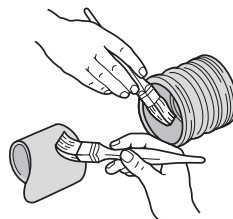

Fig.2b Preparing pipe
**Step 2** – Coat mating surfaces with **9100 Liquid Weld** (solvent cement), using a clean brush (Fig.2b) (Replace lid on container to prevent evaporation of cement)